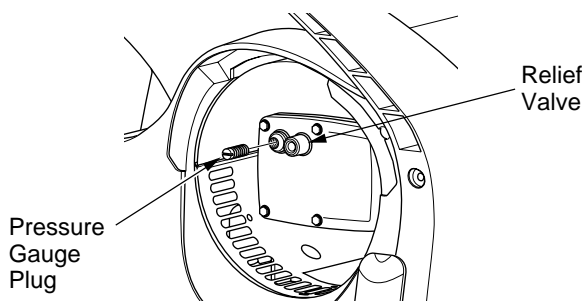

Figure 10 - Pressure Gauge Plug Removal
2. Remove pressure gauge plug from filter end cover (see Figure 10).